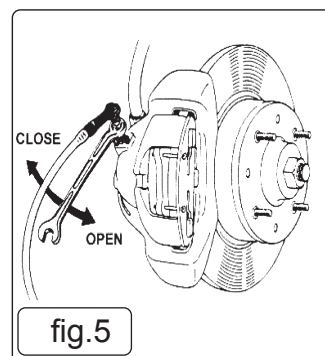

fig.5
6.1.9. Starting with the brake furthest away from the master cylinder connect the tube from the bleeding bottle to the nipple and using a brake spanner open the nipple approximately ¼ turn (fig.5), brake fluid will flow through the clear pipe into the bottle, when there are no visible bubbles tighten the bleed nipple.